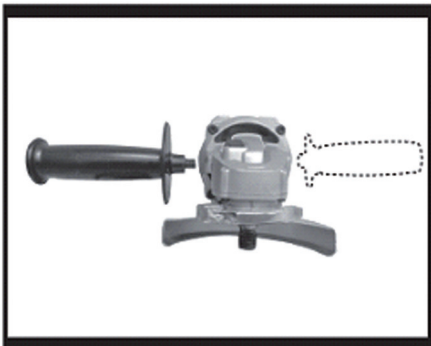

Fig. 1
1. EMPUÑADURA AUXILIAR (CONSULTE FIG. 1)